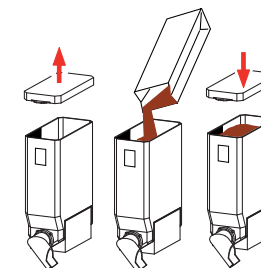

Fig. 16
4. Fill the canister(s) with the appropriate products (fig. 16). See table below.